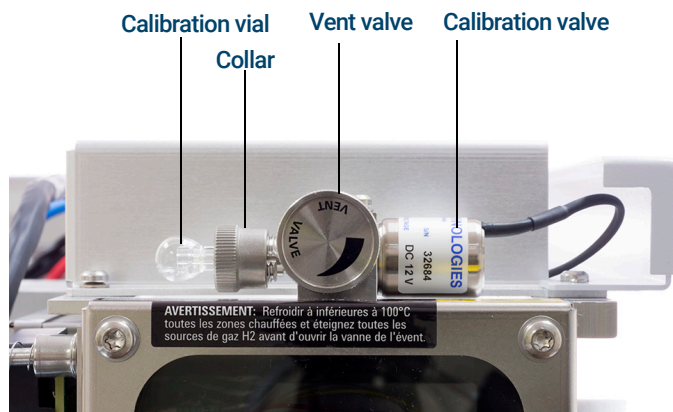

Figure 10. Removing the EI calibration vial
- 4 Turn the calibration vial collar counterclockwise to loosen it. (See **Figure 10.**) Do not remove the collar.